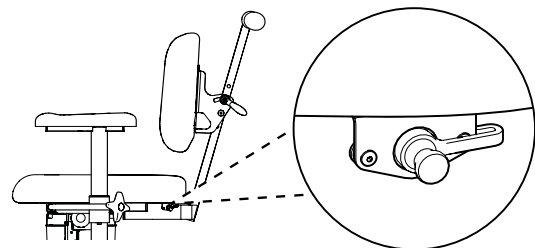

Figure 2.3. Plug connection to the charging socket under the seat.
1. Inset the plug into the charging socket (see Figure 2.3). The charging socket is usually located at the rear edge under the seat.